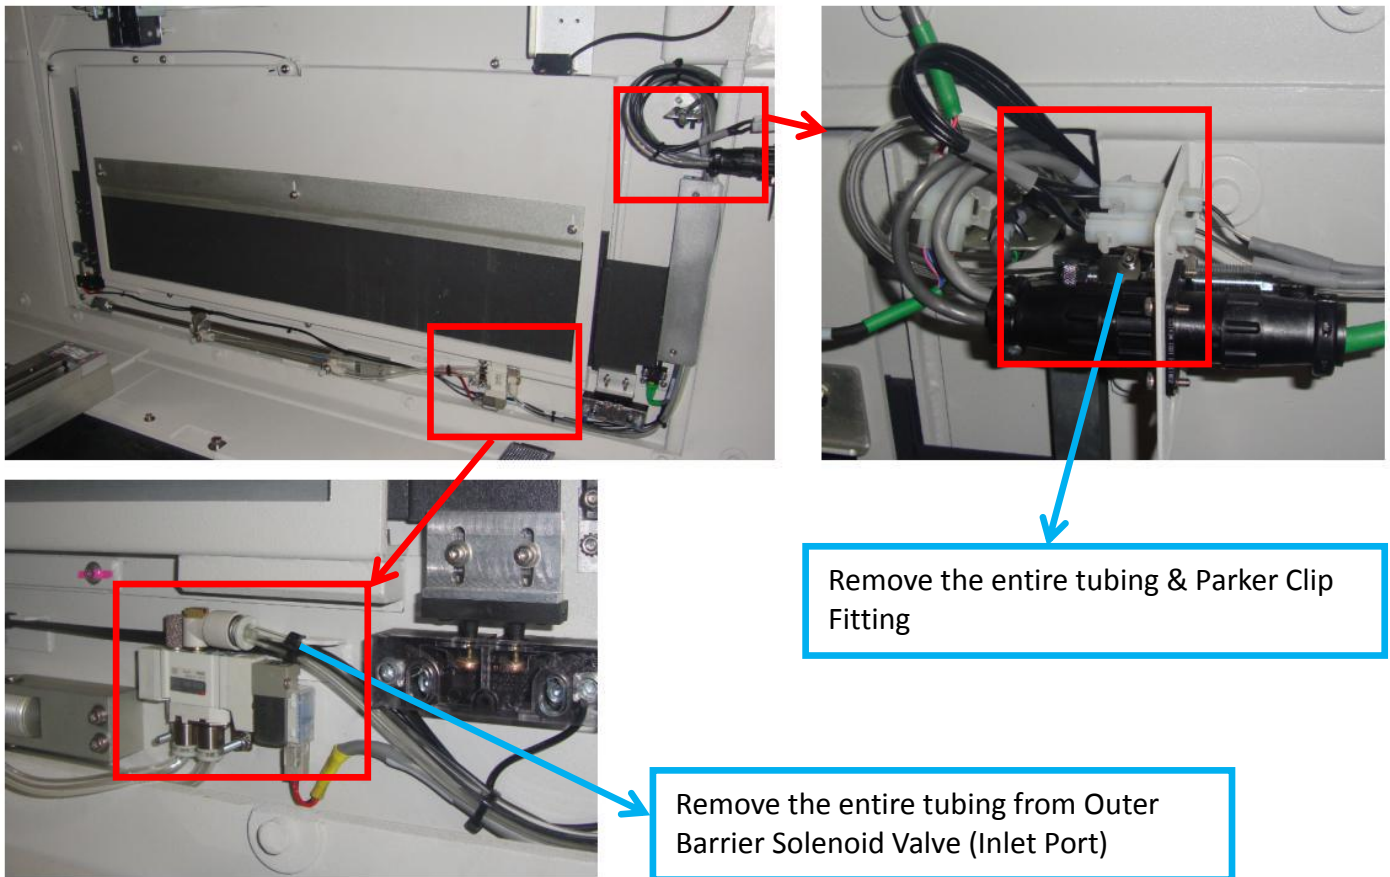

Figure 7
9. Remove entire tubing together with Parker clip fitting. May refer to below Figure 7.